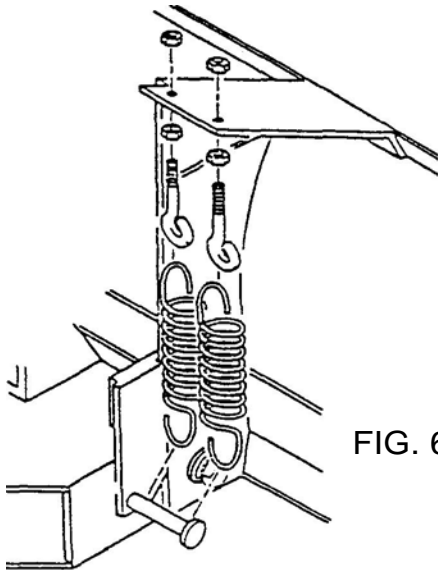

FIG. 6
- (1) Hook one end of each spring on the spring retainers located on each side of the pivot assembly.
- (2) Thread a 1/2" nut onto each eyebolt approximately 1" down from the end.
- (3) Hook the eyebolts to the other end of the springs. Hold the blade in the upright position against the stops and insert one eyebolt through the hole in the spring retainer at the top of the blade. Secure the eyebolt to the spring retainer with a 1/2" nut. Attach the other springs to the retainer in the same manner. See FIG. 6.